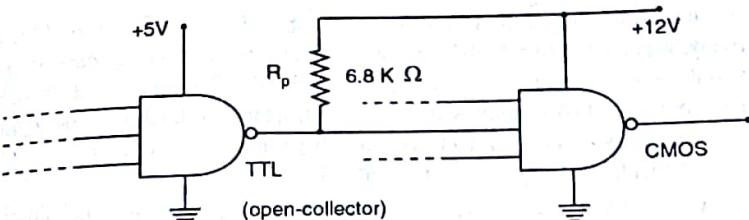

Fig. 4.33 Open-collector TTL driver allows higher CMOS supply voltage
**Different supply voltages** The performance of CMOS gates deteriorate at lower voltages. This is due to the increase in propagation delay time and decrease in noise immunity. Therefore, a supply voltage that ranges from 9 to 12V can be applied to CMOS devices for better performance. One way of using higher supply voltage is with an open-collector TTL driver, as shown in Fig. 4.33. The open-collector is connected to a supply voltage of +12V through a pull-up resistance of 6.8 KΩ.